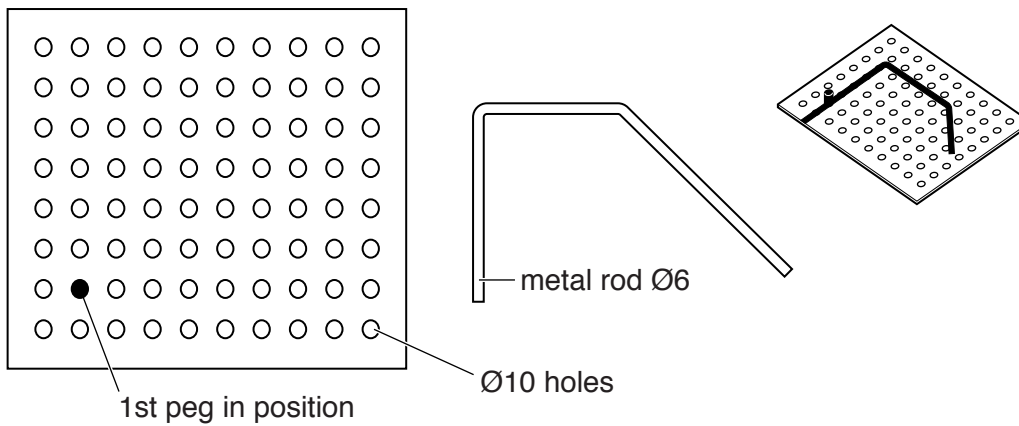

Fig. 8
- 9 Fig. 8 shows a bending jig and metal rod that has been bent to shape.
Draw on the base in Fig. 8 to show the positions of **three** additional Ø10 metal pegs that would enable the Ø6 metal rod to be bent to the shape shown in Fig. 8.